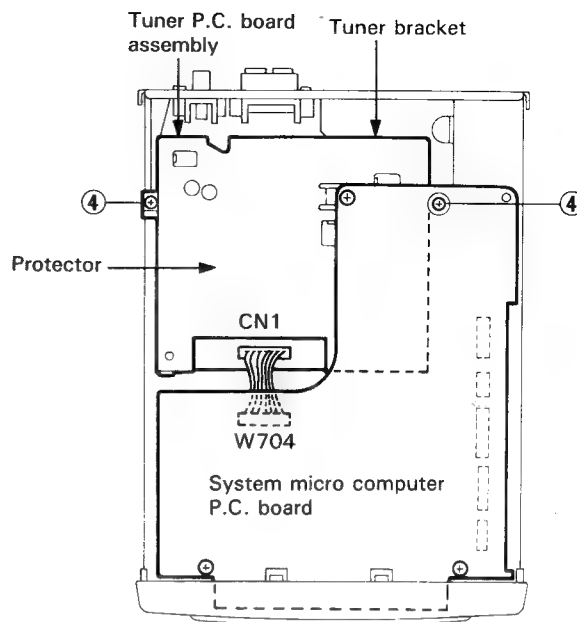

Fig. 7-7
(Refer to Figs. 7-7 ~ 7-9)
3. From the tuner bracket, remove the two screws ④ retaining the protector covering the tuner P.C. board (Refer to Fig. 7-7).